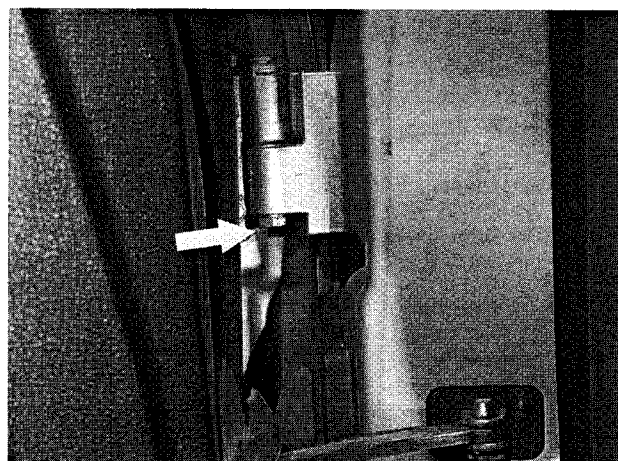

Fig. 2. Door hinge pin bolt (**arrow**). Top hinge shown. Also remove pin bolt from lower hinge.
3. With door fully open, remove pin bolts from top and bottom door hinges. See Fig. 2.